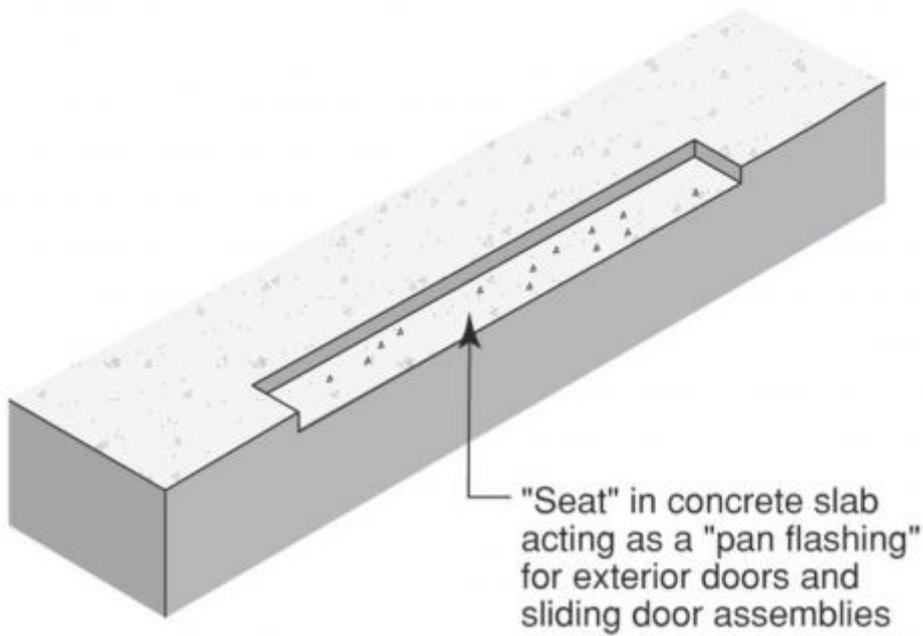

Figure 9 - A seat is formed in the concrete slab to act as pan flashing for a door.
3. For houses with concrete slab floors, form a seat in the concrete slab to act as a "pan flashing." See Figure 9.